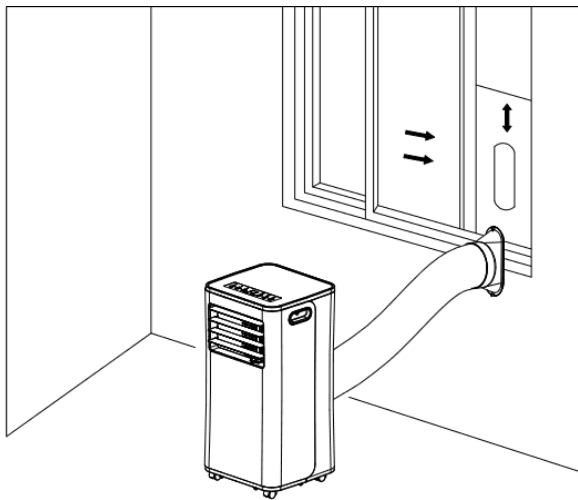
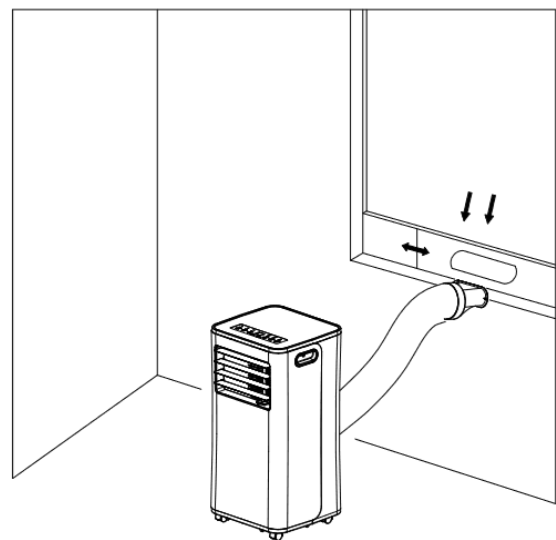

Figure 5
Figure 6
4) Elongate the exhaust pipe and snap the flat end of the exhaust pipe joints into the hole of the window sealing plate assembly (as shown in Fig.5 and Fig.6).